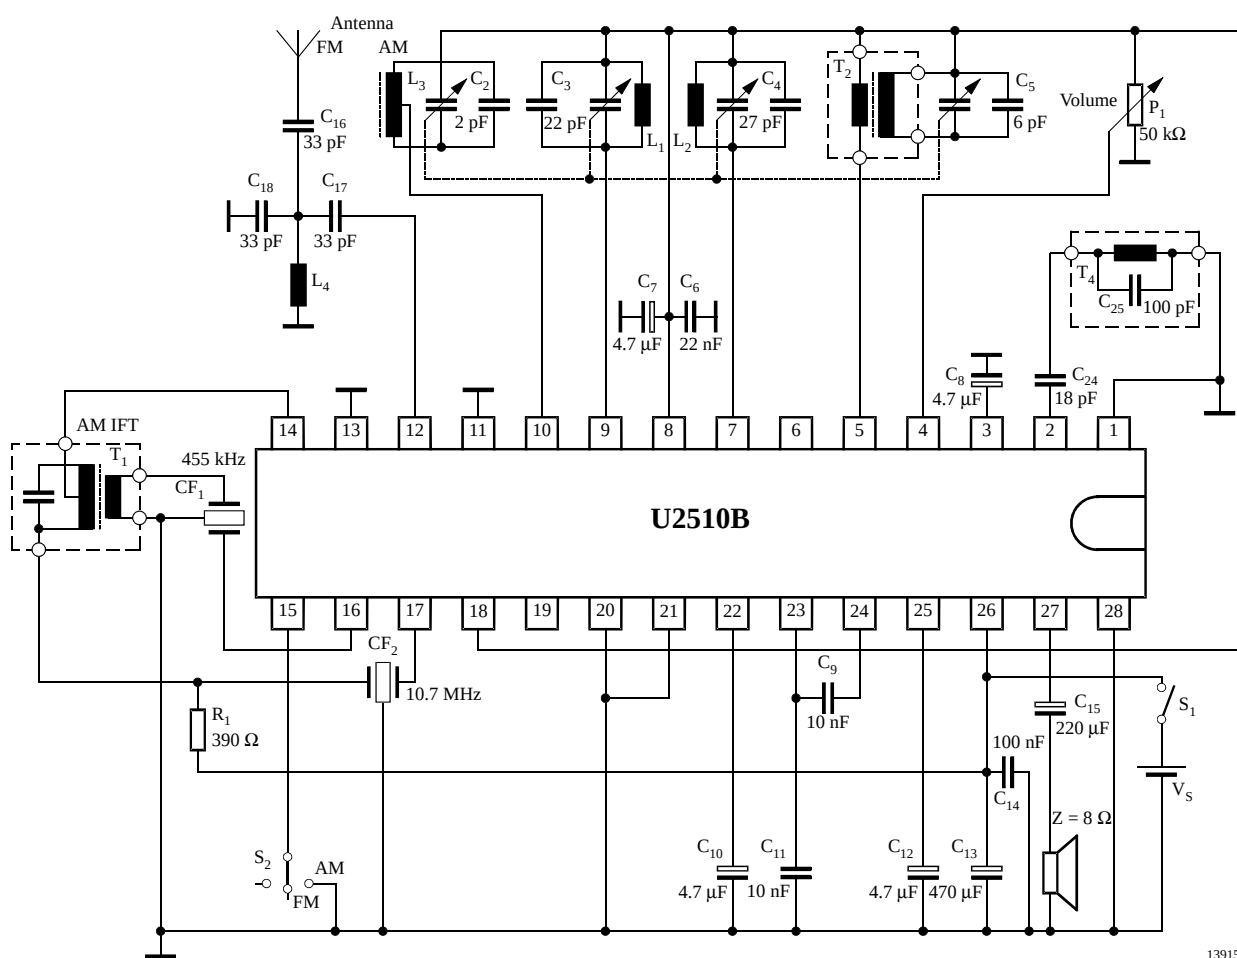
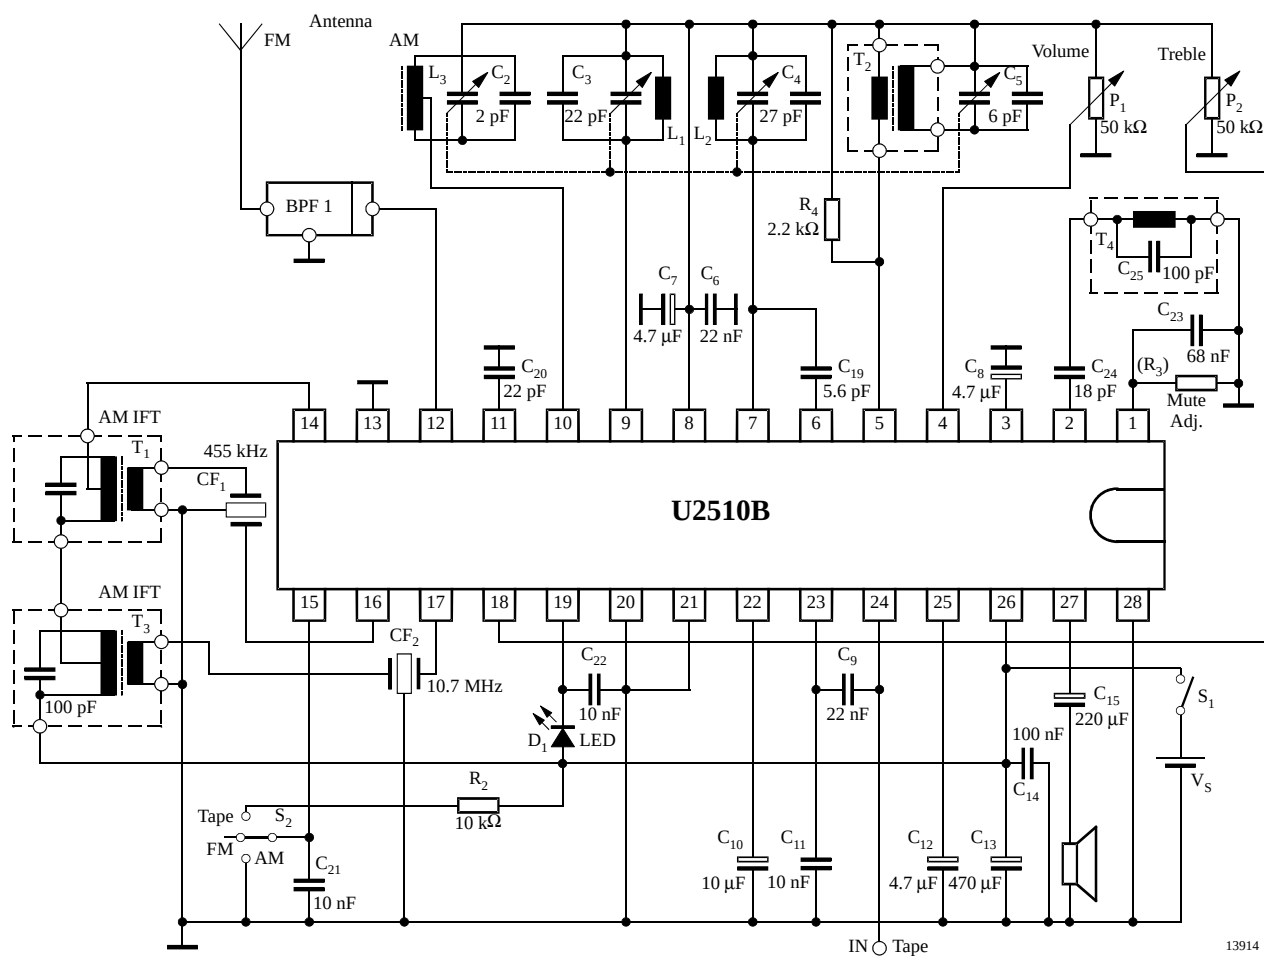

Figure 17. Application circuit (low cost)
Figure 18. Application circuit (upgraded) R₂ only if V_S > 8 V
Figure 17 shows a circuit diagram for low end AM/AF radios using the U2510B. Figure 18 shows a circuit diagram of AM/AF radio for higher class designs using all possible options of the U2510B. The layout of the PC board, shown in figure 19, is suitable for both the circuit example shown in figure 17 and the circuit example shown in figure 18. The associated coil, varicon and filter specifications are listed in the table: COIL DATA and SPECIAL COMPONENT PARTS. The circuit diagram (figure 18), has the following options compared to the circuit diagram (figure 17) (the additional parts, which have to be provided, are listed in parentheses):
Option e) improves the tuning behavior substantially. The special design of the on-chip AFC function means that common disadvantages such as asymmetrical slope, (chip-) temperature effects and unlimited holding range are avoided. As mentioned in the "Pinning Description Table", the AFC slope has to be inverted when the local oscillator (LO) frequency has to be below the receiving frequency. This can be achieved by connecting Pin 21 to the potential of Pin 8. In addition to the options described above, the following proposals are implemented in the circuit diagram (figure 18), too:
As shown in the application circuit diagrams (figures 17 and 18), in FM mode ceramic filter devices are used for channel selection (CF_2) while for FM, demodulation in LC-discriminator circuit (T_4 , C_{24} , C_{25}) is used instead of a ceramic discriminator device.